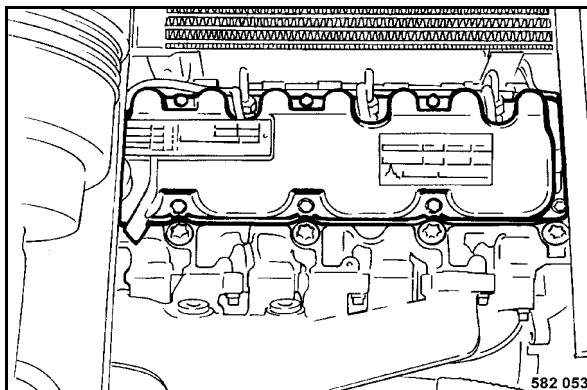

Fig. 164
- Remove the valve cover (Fig. 164).